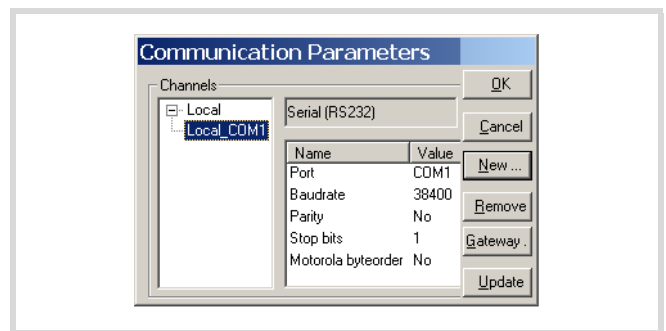

Figure 49: Setting communication parameters
- ▶ Use the remaining settings as shown in figure 49.